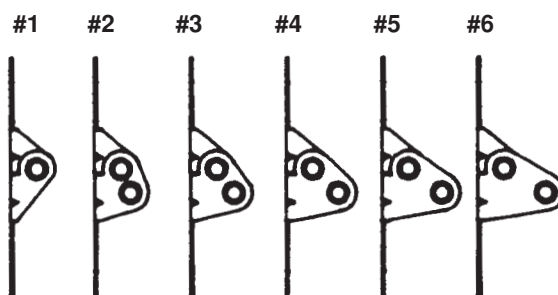

Fig. 2-S
Step 1: On the inside of the garage your opening should be framed with wood jambs, 2" x 6" if possible, or with steel channel as shown in Figure 1-J. The side jambs should extend to approximately the same height as the headroom required. If you have just removed an old door, the condition of the jambs should be inspected. If the jamb has deteriorated, it should be replaced now. The jambs should be plumb and the header level. If there are any bolts fastening the jambs to the wall, the heads should be flush so they don't interfere with the installation of your new door. (FIG. 1-J) Typical installation for wood, steel or masonry jamb material is shown in Figure 2-J.
- **Rollers in end hinges will use farthest sleeve from section. (FIG. 2-S)**
pictures shown in Figure 1-S and fasten bottom bracket using the red-colored fasteners shown. (Low headroom doors refer to Figure 8-T, page 23.) Some have flanges which hook under the bottom section and some do not. Install cables, then position the bracket in place. (FIG. 1-S) Install hinges on end and center stiles of the bottom section using #14 x 3/4" self-drilling screws. See Figure 2-S for sequence and hinge placement. For Model 901 doors and door with Full Vision see page 13. Stack bottom section in opening. **Long stem rollers provided go into bottom brackets.** Install vertical track as described on page 15. Top rollers will hold section in place.
Section Seal. If section seal is provided or bought as an option, it should be installed over the inside ship lap or inside the groove as indicated in Figure 1-LAP and Figure 2-LAP.
#2 Section. Attach bottom half of center hinges to top of section using #14 x 5/8" hex head sheet metal screws. Attach end hinges. (FIG. 2-S) If section has lock see Step 4 for sequence. Stack section. After section is stacked, rollers in the track will hold section in place. (If struts are supplied see Figure 3-S for placement.)